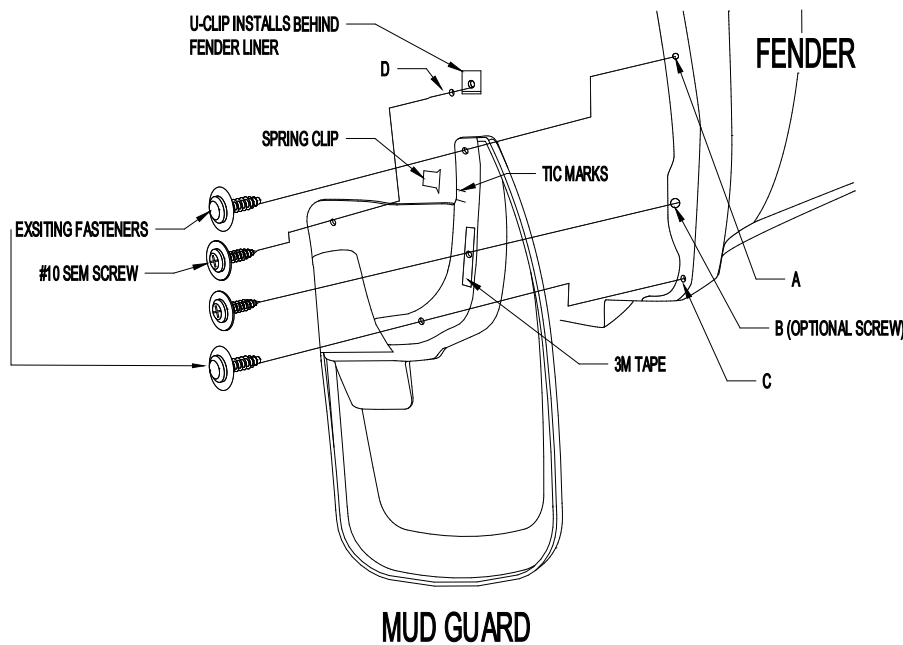

Figure 1
1. Remove existing fasteners from location A and C (Figure 1).
3. Install mud guard with existing fasteners at location A and C. Check fit and make sure mud guard is parallel to ground before tightening. Apply pressure to the tape area to secure the tape (see Figure 1).
5. **Optional Mounting location.** Using the mudguard as a template, drill an 1/8" hole at location D. Install #10 SEM screw thru the mud guard, fender liner and into a **u-clip** behind the liner. NOTE: The u-clip is used like a nut and DOES NOT clip over fender liner (Figure 1).